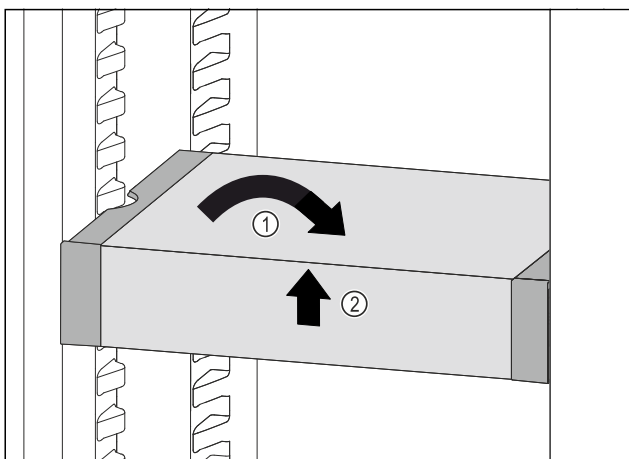

Fig. 177
- ▶ Set VarioSafe straight. Fig. 177 (1)
- ▶ Lift VarioSafe at the front. Fig. 177 (2)